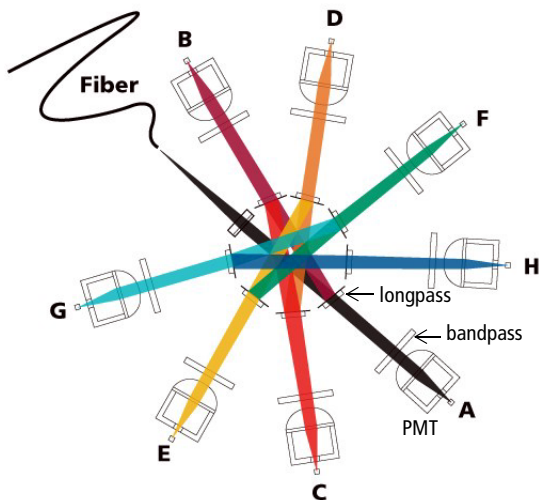

Figure 2-7 Detectors and filters in octagon array
Optical filters modify the spectral distribution of light scatter and fluorescence directed to the detectors. Two kinds of filters are used in the detector arrays: longpass (LP) filters are used to steer light between the detectors within a detector array, while bandpass (BP) filters in front of each PMT allow fine-tuning the spectral wavelengths that need to be collected (Figure 2-7).